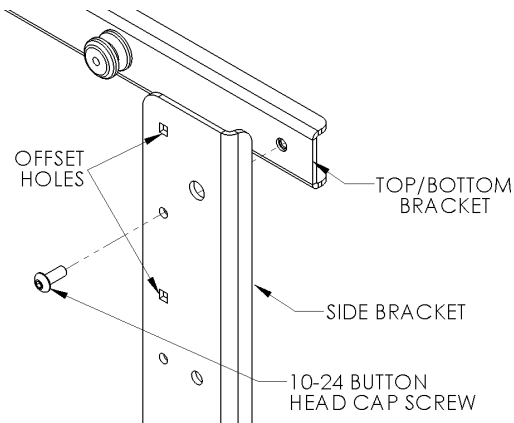

Figure 4
- Using four 10-24 button head cap screws, attach top and bottom to side brackets (see Figure 4 & Figure 5). The square offset holes can be used if use of the center hole causes the cross brackets to block connections or if an offset is needed for the installation (See Figure 6 & Figure 7).